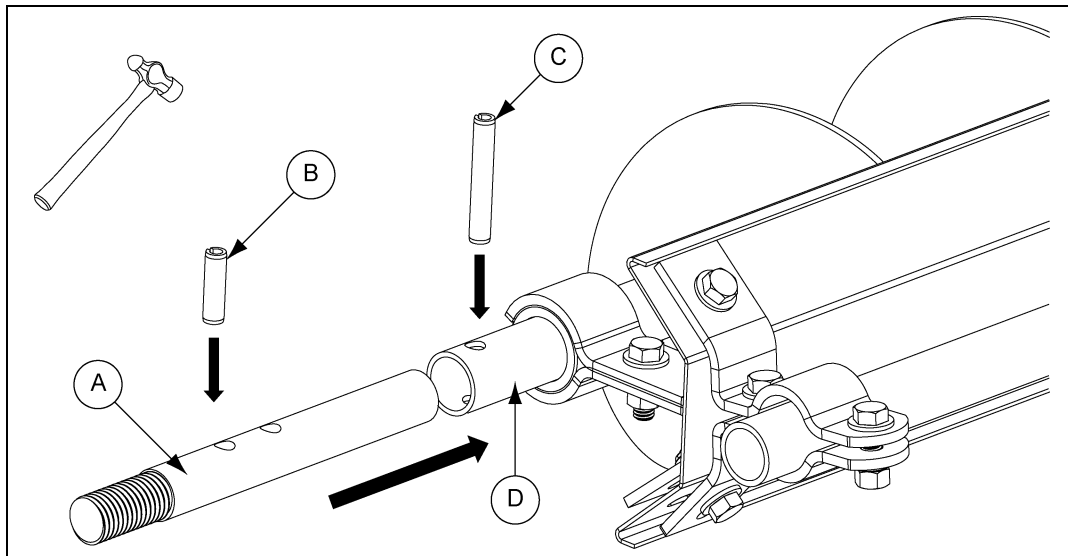

Figure 4N
Step 14: Fit wheel shaft. (See Figure 4N.)